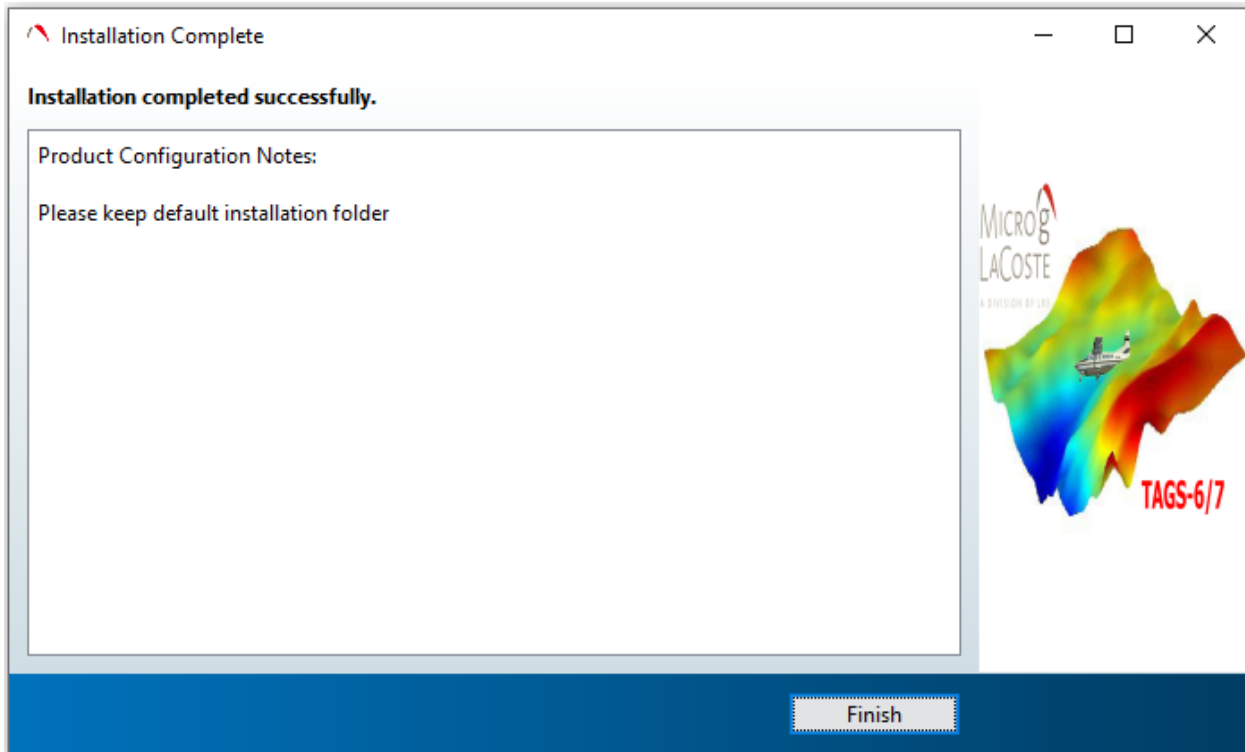

Figure 2-11 Installation Complete Dialog
3. An **Installation Complete** dialog (Figure 2-11) displays when the installation has completed successfully. Click **Finish** and proceed to the License section.